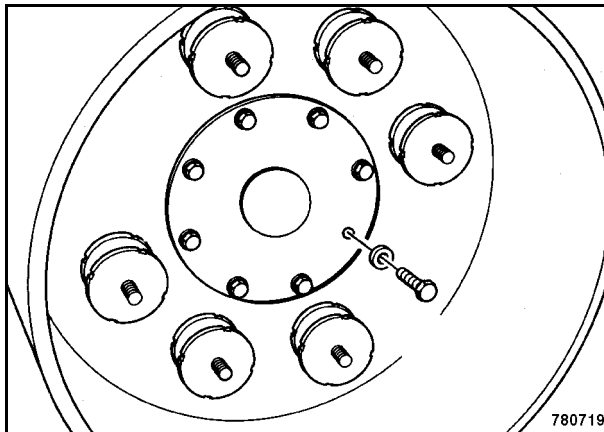

Fig. 3
4. Assemble the bearing cover (Fig. 3).